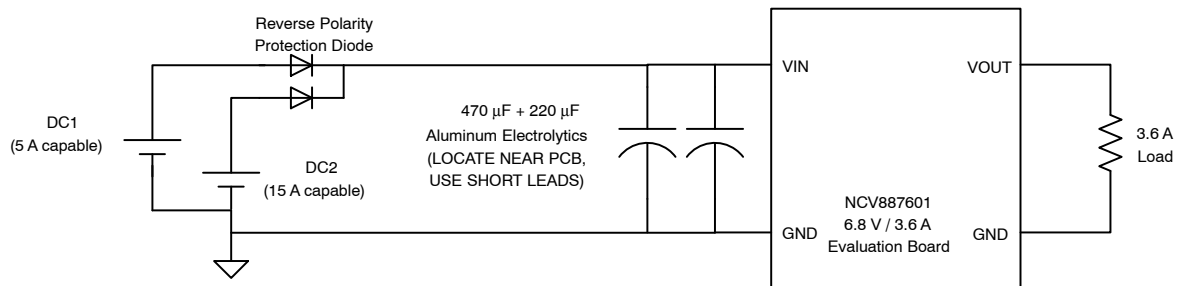

Figure 2. Evaluation Board Connections
The evaluation board is rated to operate at full load for input voltage as low as 2.6 V at the input terminal under full power (less if output current is reduced). Start-Stop applications use reverse battery protection diodes in front of the boost converter (Figure 2), so the input source can operate down to 2.6 V plus a diode drop (i.e. ~3 V). On the cathode side of the reverse battery protection diode, electrolytic capacitors are used (e.g. 2 x 330 μ F) that serve three functions.
1. Connect a DC2 input voltage (15 A capable) set to a voltage of 12.0 V as shown in Figure 2. DC1 is not used in this test.
1. Connect both DC1 and DC2 input power supplies as illustrated in Figure 2. Adjust DC2 so that PCB VIN = 2.6 V for a 3.6 A load.